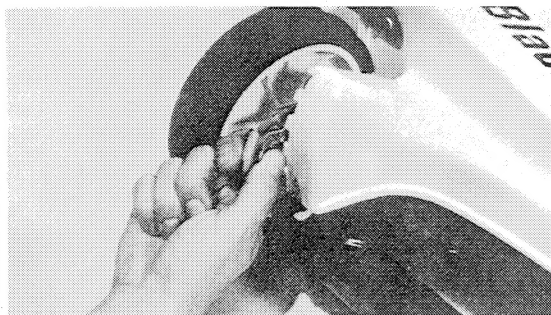

FIGURE 9A
- (7) **DELUXE MOWERS ONLY** — Adjust wheels for cutting height by squeezing together the two ends of the adjusting lever and placing it in the proper slot for cutting height desired (Figures 9A and 9B).